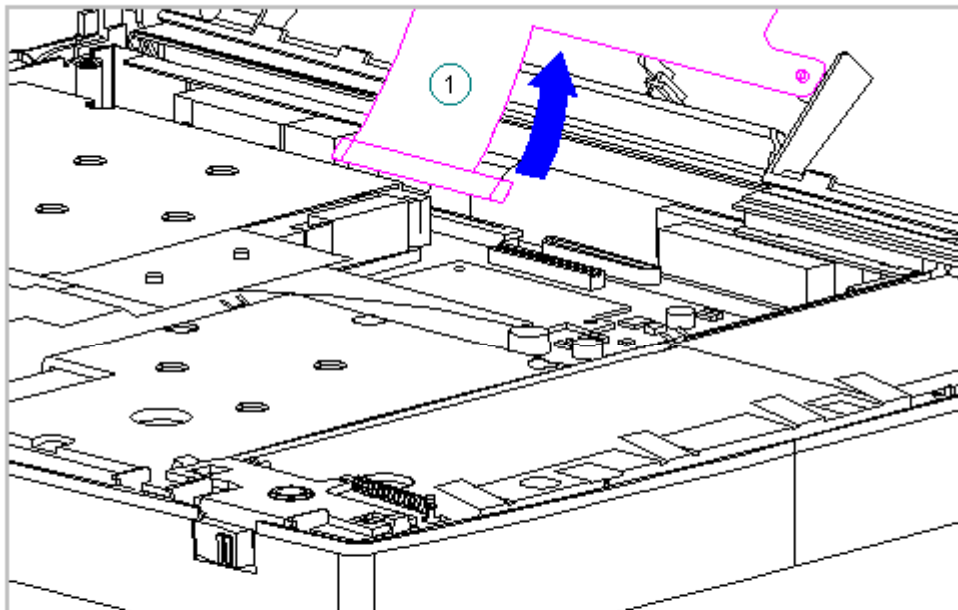

Figure 5-112. Disconnecting the Display Ground Cable from the Flex Ground Bracket
8. Disconnect the display ground cable [1] from the flex ground bracket (Figure 5-112).